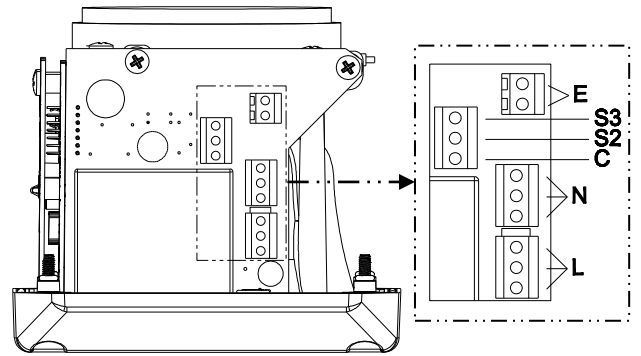
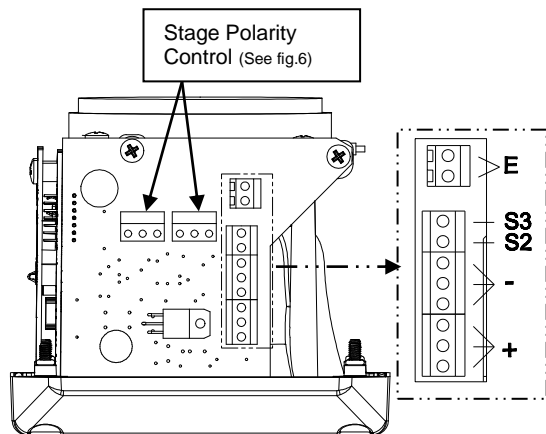

Fig. 5 AC Terminals
Fig. 8 DC Terminals
- c) Fit an M20x1.5 suitably rated, certified cable gland or conduit entry into the hole in the enclosure and connect the field wiring to the appropriate alarm horn terminals as shown in section 9 and fig 8 (DC) or section 8 fig 5 (AC) of this manual. The power supply terminals are duplicated so that alarm horns may be connected in parallel and for DC units only an end of line monitoring resistor may be fitted. If the second M20x1.5 entry is not used a suitably rated, certified stopping plug must always be fitted.
Stage one (S1) operation: Simply connect the supply voltage to the L and N supply terminals, (see fig. 5).
Stage one (S1) operation: Simply connect the supply voltage to the + and - supply terminals, (see fig. 8).
Internal earthing connections should be made to the internal earth terminal on the PCBA, (please see fig 8 for DC, fig 5 for AC). The earth conductor should be at least equal in size and rating to the incoming power conductors. The internal earth bonding wire connects the PCBA earth terminal to the internal earth terminal in the enclosure back box.